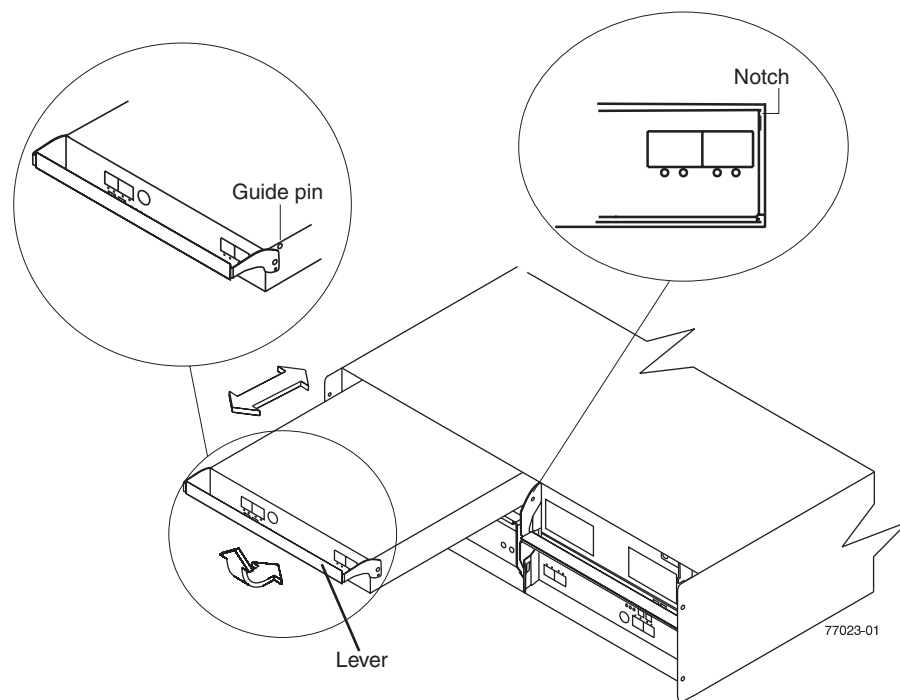

Figure 107. Installing a controller
- a. Slide one controller into the empty slot in the storage subsystem. Be sure that the lever is pulled straight out as you slide the controller in, as shown in Figure 107.